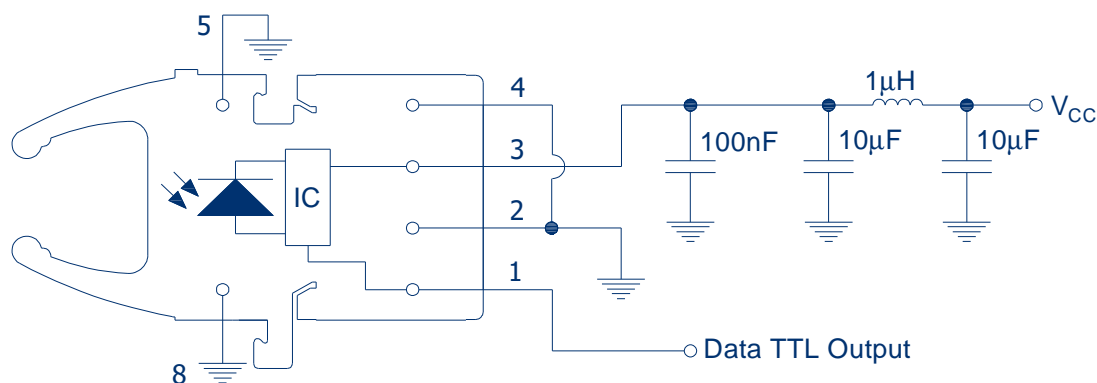

FIGURE 2
- a) Pin 4 is electrically isolated internally. Pin 4 may be externally connected to pin 1 for board layout compatibility with existing designs. Otherwise, it is recommended pin 4 be grounded as in Figure 2.
Receiver propagation delay and rise/fall time definitions as per application circuit of Figure 2.